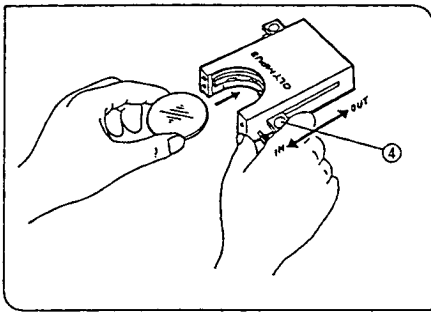

Fig. 26
Using the Filter Cassette (Figs. 26, 27, 28, 29)
Loading Filters into the Filter Housing (Fig. 26)
2. Slide lever ④ to the IN position. Make sure that it clicks securely into place. (Fig. 26)